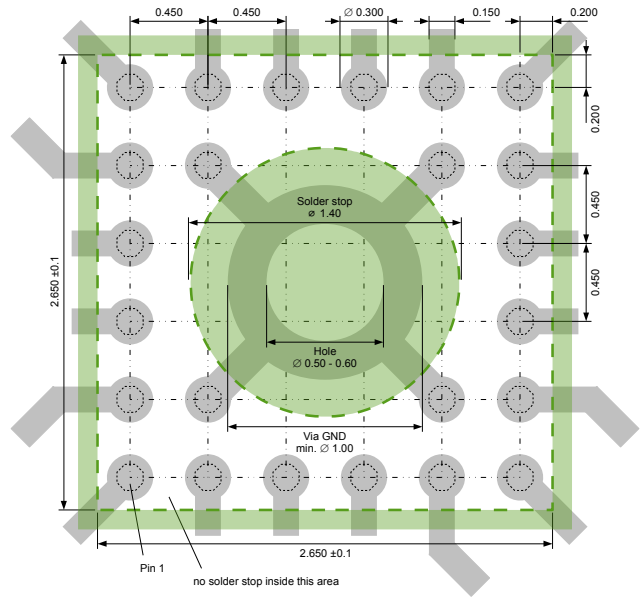

Figure 7: Layout recommendation
- Use a pad layout similar to Figure 7. Notice, all tracks should go underneath the solder mask areas.
- To keep the noise floor low in the sensitive receiver path of the chip, a low ohmic and low inductive connection to the supply ground is needed. Figure 7 suggests a recommended grounding of the chip (if a ground plane is not feasible): Feed all grounds into a central via-hole with a drill diameter 0.5 - 0.60mm.